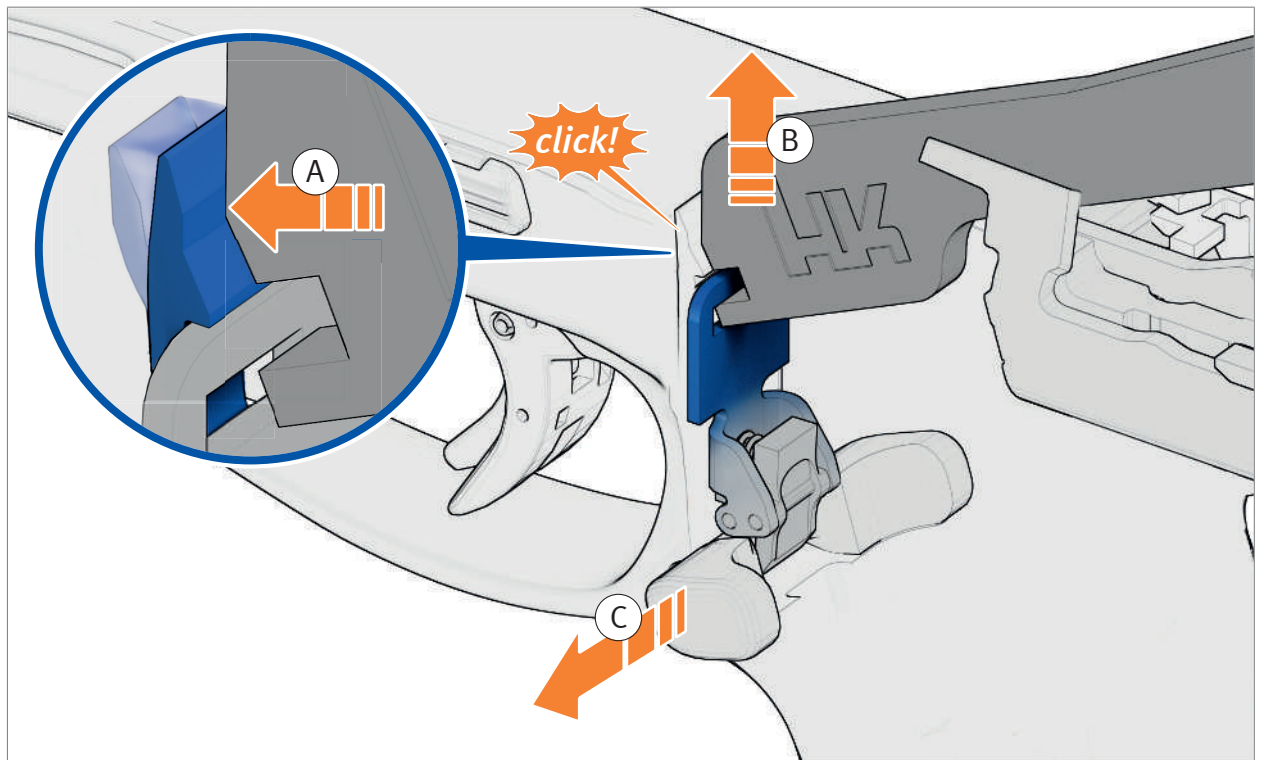

Fig. 33: Remove pushbutton
3. Push the latching clip in the frame forwards with the tool and then push the magazine catch upwards (Fig. 33). The magazine catch latches in.
4. Remove pushbutton (Fig. 33).